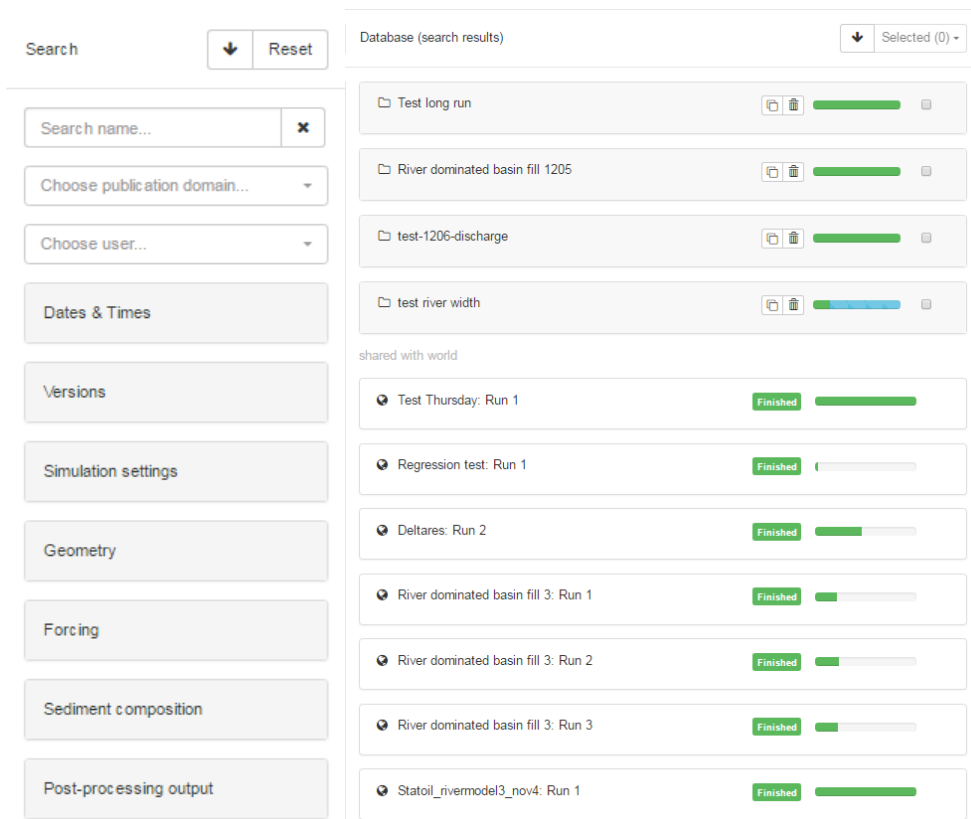

Figure 2.7 Overview of the search facility and its filters (left panel) and the database contents (right panel) of the Delft3D-GT database.
By default the database view displays all the scenarios and runs that are available to the user. This includes (1) *private* runs that are only accessible for the user him/herself, (2) runs *shared in company* that are only accessible for the users within the same company and (3) runs *shared in public* that are accessible to all Delft3D-GT users. The search facility (Figure 2.7 left) allows the user to filter the results based on its meta-information (such as run name, owner, user domain or creation date), input (e.g. parameter settings) and/or output (e.g. geological parameters). In this way the search facility allows the users to quickly navigate through the database.
The central panel of the database view shows the contents of the database to the user (Figure 2.7 right). The contents of the database display the (filtered) scenarios and runs as well as their status (e.g. waiting for user, in progress, finished). The runs in the database are categorized based on the user domain in which they are shared (e.g. private, company or world).